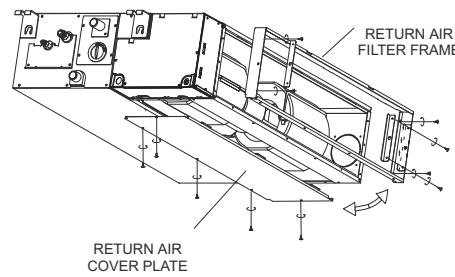

Fig. 10 —Removing Air Filter Frame and Cover Plate
- Remove the screws that secure the return air cover plate to the bottom of the unit and set the cover plate aside. See Fig. 10.